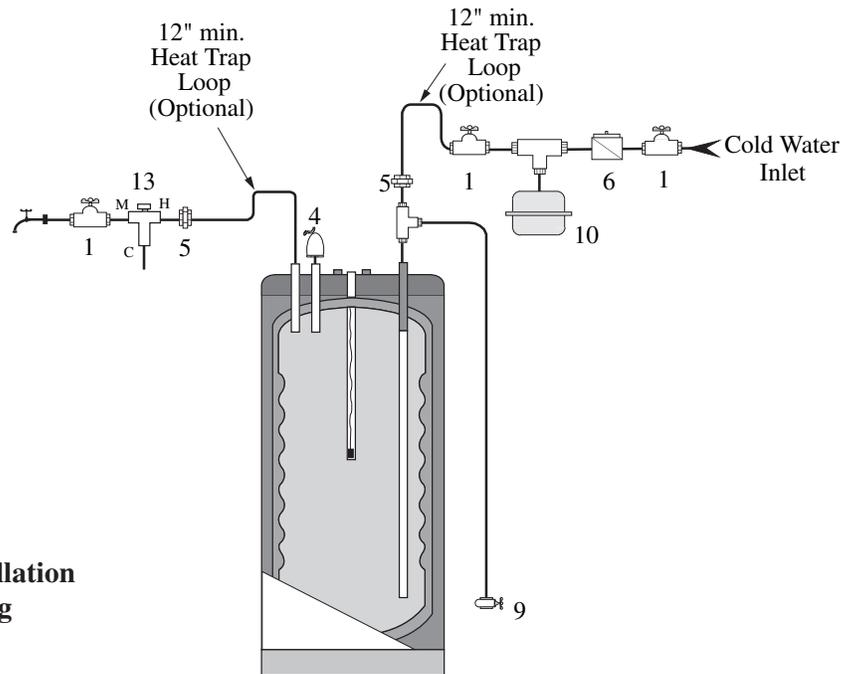

Fig. 1: Standard Installation Domestic Piping SMART Series
- Install a tee connection at the domestic cold water inlet (Fig. 1 and 2 page 8).
- Each tank should be piped with a drain as shown in Fig. 1.